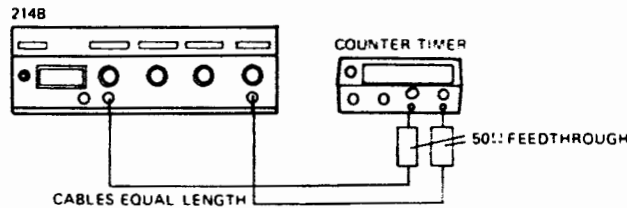

Figure 4-3.
8. Change test setup to that shown in Figure 4-3 to check DELAY RANGES.  $.1\mu - 1\mu$  to  $1m - 10m$ .